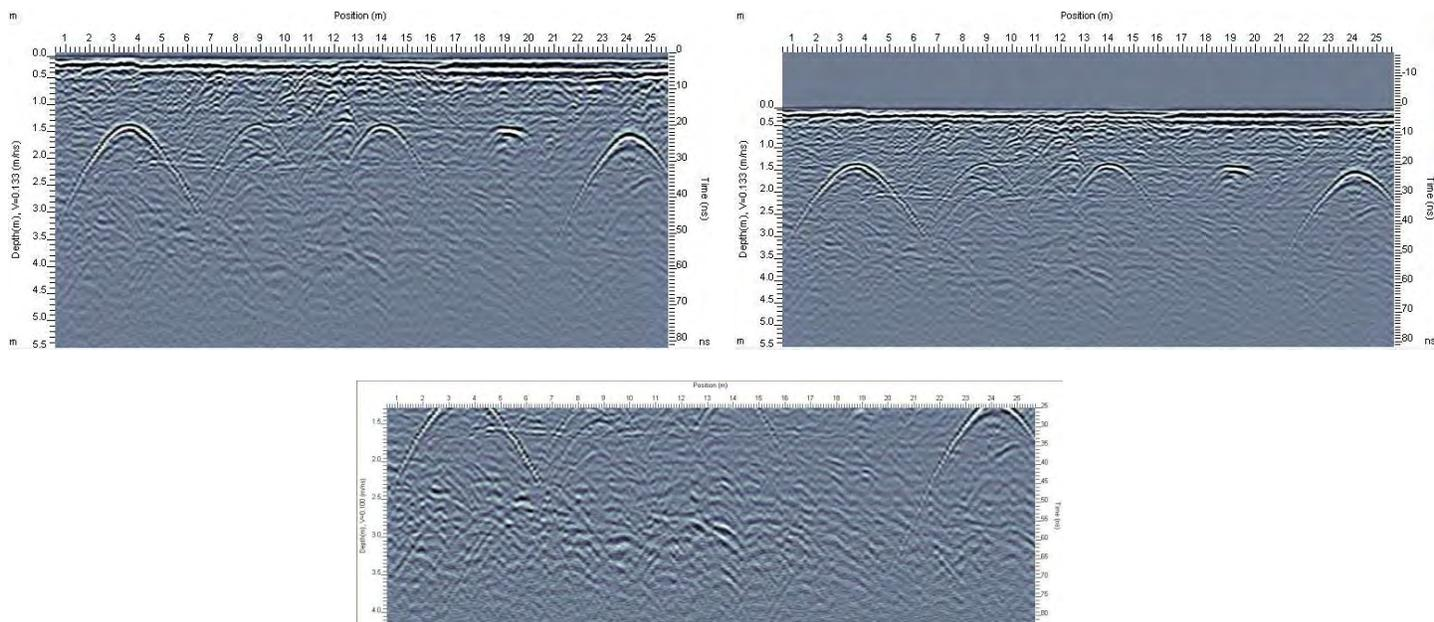

Figure 6-28: Zero Time (top left), Min Time (top right) and User Time (bottom) settings for the Top Time Limit.
The Top Time Limit option allows the user to set the minimum time displayed on GPR lines (Figure 6-28). There are 3 options for this setting:
- 3) **User Time** allows the user to input the minimum time to be displayed in the GPR line. Be cautious when using a positive top User Time because it will remove data at the top of the GPR line (Figure 6-28, bottom image).